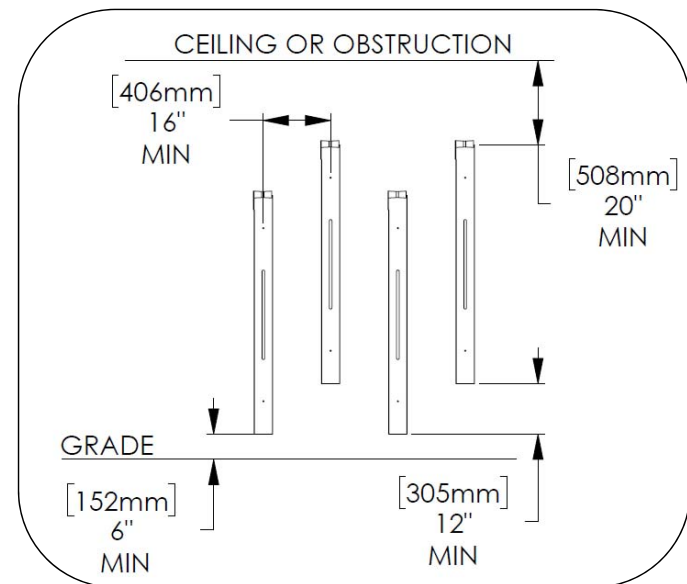

Fig. 2 – recommended spacing
1. Place bike rack in position on post. Follow spacing guidelines in Fig. 2 for height above grade. Place spacers between bike rack and post at both hole locations.
2. Install using (2) #12 x 1" self-tapping screws (not included). Do not use stainless steel hardware to attach bike rack to Upfit post.
1. Place bike rack in position. Follow spacing guidelines in Fig. 2 for height above grade. Place spacers between bike rack and mounting surface at both hole locations.
2. Install using (2) anchors, provided by installer.